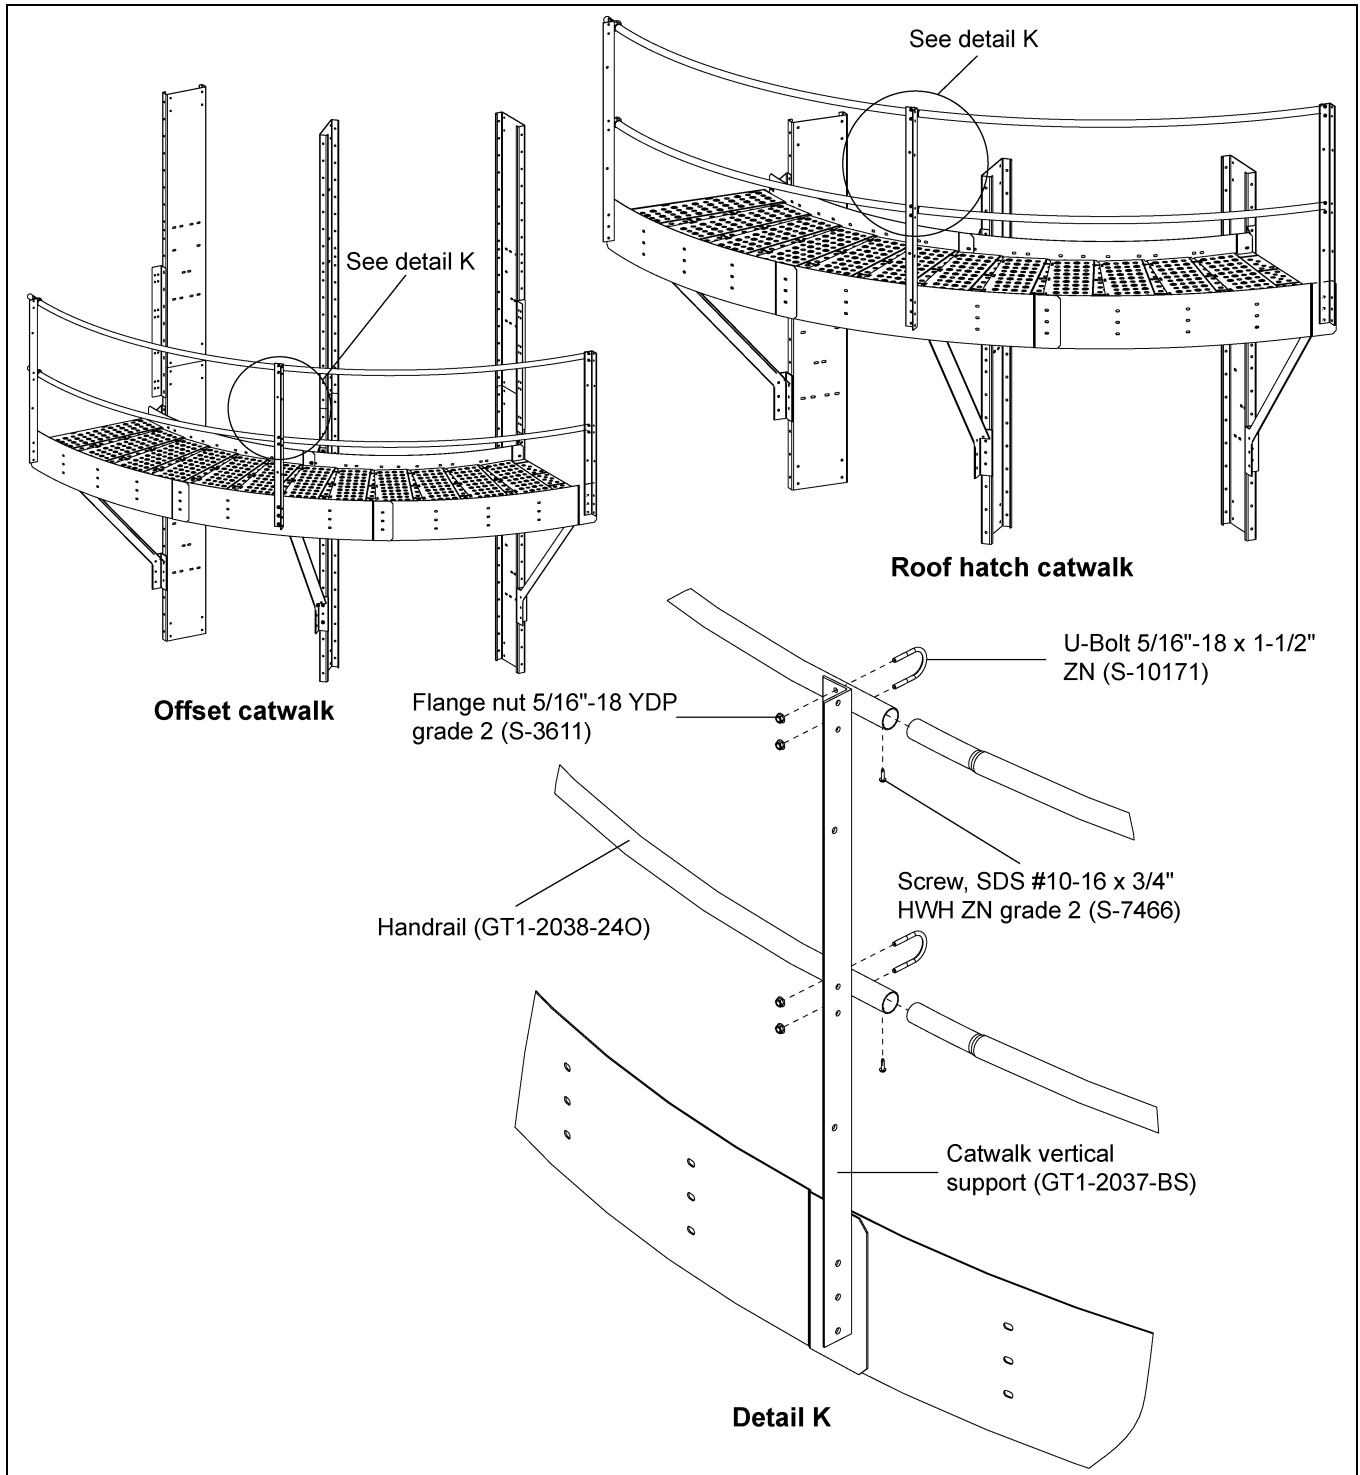

Figure 6U Handrail (GT1-2038-24O) Installation for Offset and Roof Hatch Catwalks
1. Install the long handrail (GT1-2038-24O) to the catwalk vertical support (GT1-2037-BS) using 5/16"-18 ZN U-bolts (S-10171) and 5/16"-18 YDP grade 2 nuts (S-3611) to tighten the handrail with vertical post. (See Figure 6U.)
2. Use the self-tapping screws SDS #10-16 x 3/4" HWH ZN grade 2 (S-7466) at all handrail pipe joints. (See Figure 6U.)